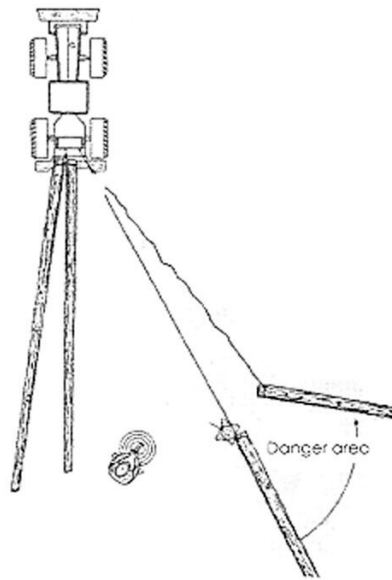

Figure 6
27. On uneven terrain or when not observing the maximum allowed towing angle there is a danger of the winch rolling over (Figure 6).
34. The winch can be operated only from a safe place from which the load, wire rope, rope hook or the winch itself do not pose a threat to the operator. A safe place can also be the tractor seat if the winch has a safety net of sufficient size. When operating the winch outside the tractor seat the operator must be provided with an appropriate protection, e.g. the tractor itself, secure location at a sufficient distance from the vehicle, e.g. behind a tree. Logs can be monitored from the side next to the connection and shorter timber can be monitored diagonally behind the load. (See Figure 6).
Length of PTO shaft needs to be adjusted for different tractors (figure 6). For winch 30M/35M, it is appropriate to use a PTO shaft, torque max. 355 Nm, type W 200E, for 40eco torque max. 500 Nm, type W 300E Walterscheid.